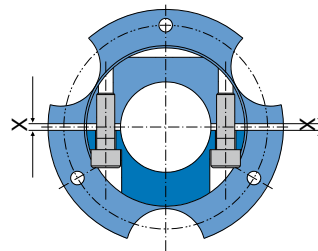

Fig. 111
- Tighten the tensioning screws crosswise in several procedures. Please ensure that the gap "X" on both sides of the hub is the same (Fig. 111).